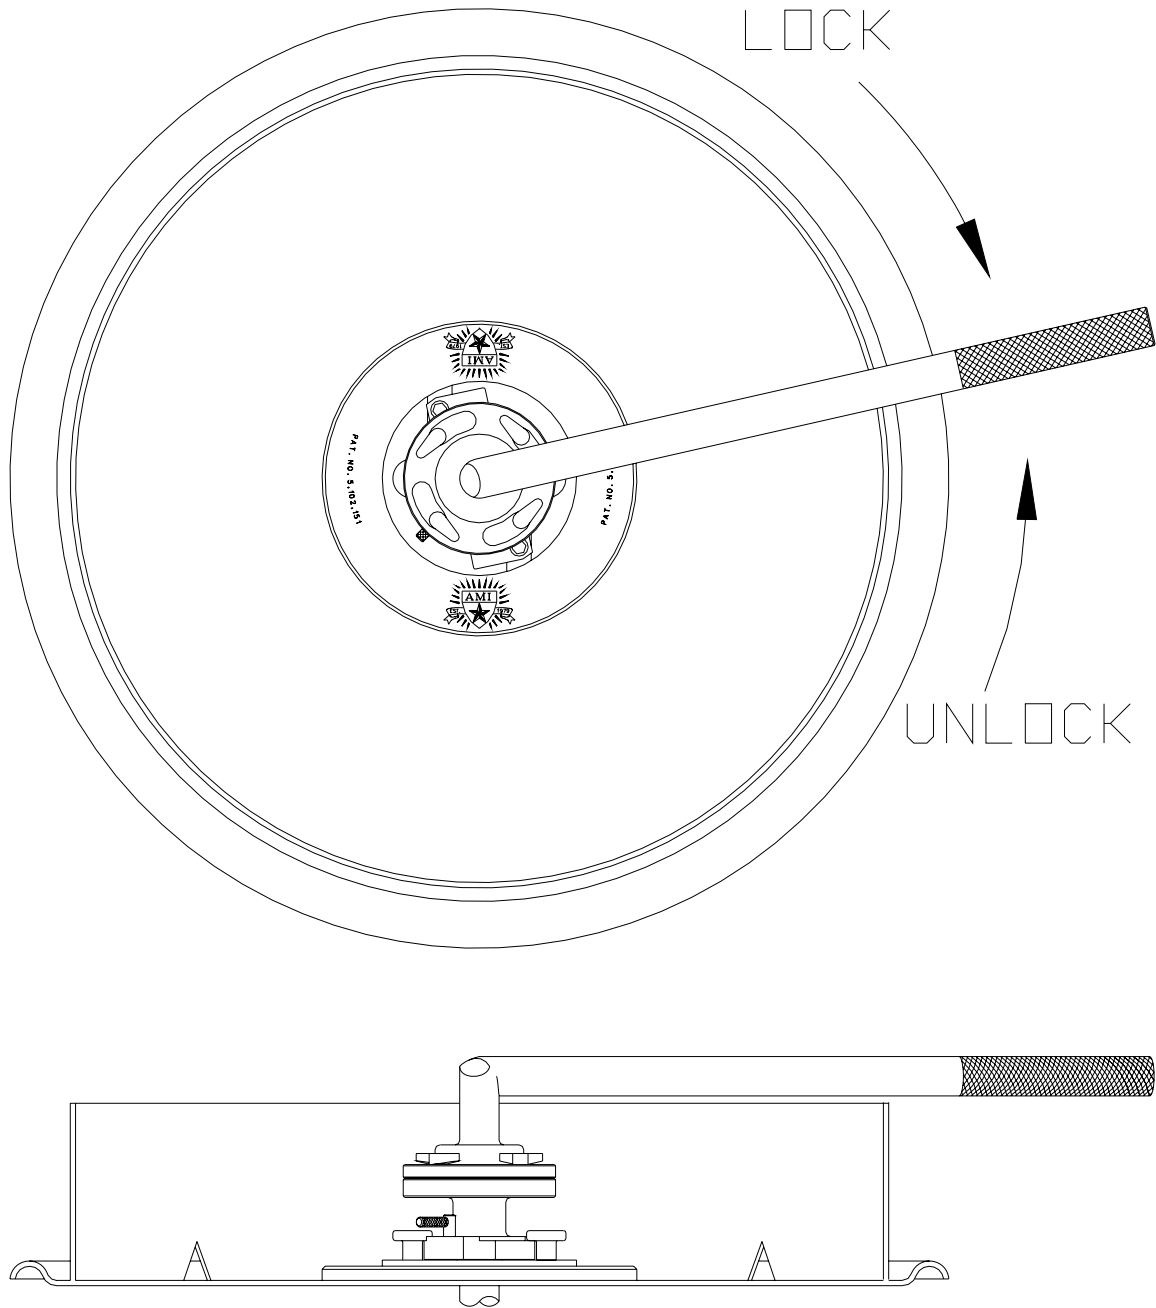

FIGURE 3
3.1.5 Using coupling wrench, rotate coupling until locking pin engages hole in flange. An audible click will be heard. (see fig. 3)
release pin. (see fig. 3)